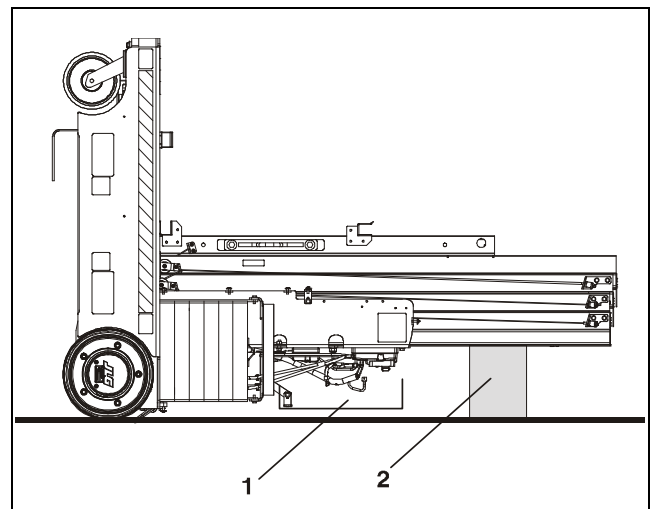

Figure 5-3. Machine Positioned for Cylinder Removal.
3. Use a forklift truck or overhead crane and carefully lay the machine on it's back, place a support under the mast end, keeping mast close to level. (See Figure 5-3.)